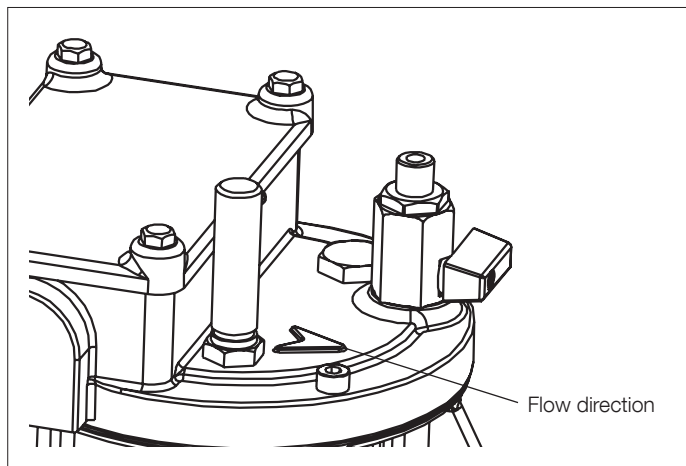

Fig. 17. Close up of flow direction arrow
3. Note the arrows that indicate the direction of flow of the oil flow relay; the arrow should point towards the conservator. See Fig. 17.